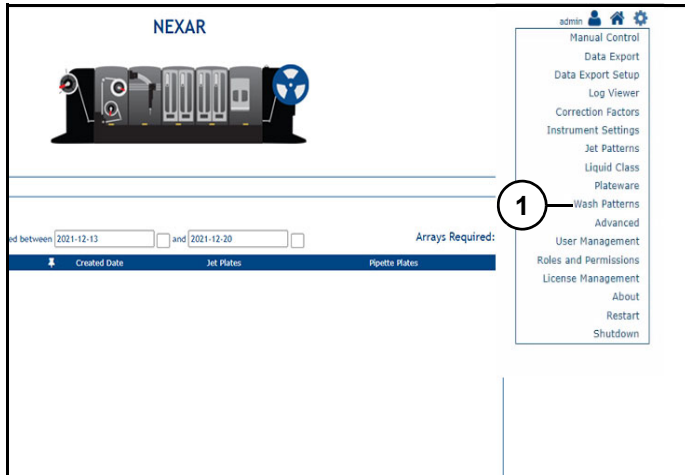

Figure 27
Wash Patterns (1) (Figure 27): Opens wash patterns page.